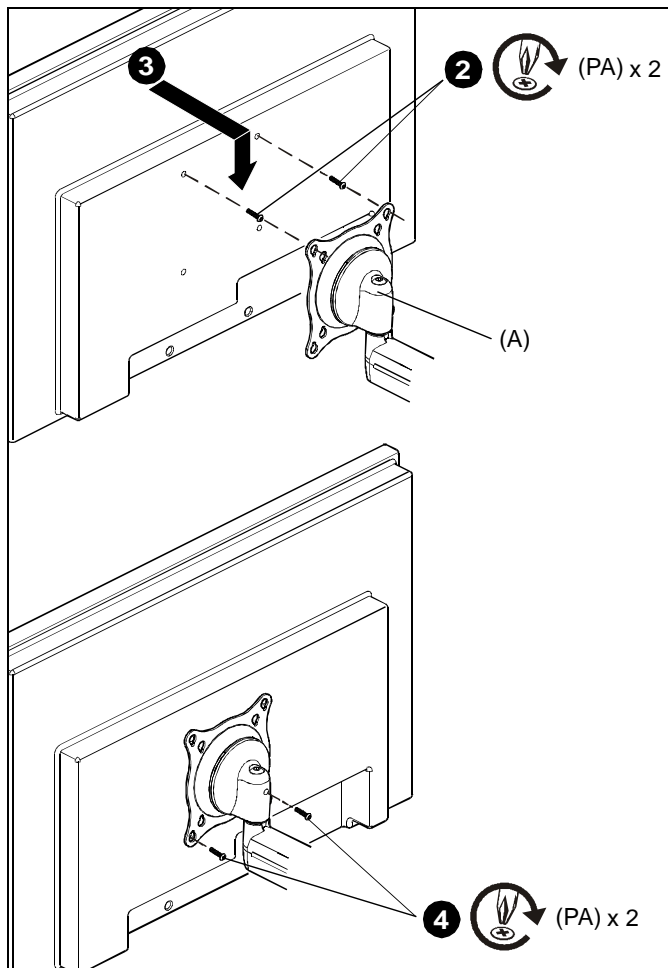

Figure 4
2. Carefully install two M4 x 12mm Phillips head screws (PA) into the *upper* mounting holes on the display. Thread screws completely into display, then back out 3 complete turns. (See Figure 4)
4. Using Phillips screwdriver, install two remaining M4 x 12mm Phillips head screws (PA) through the *lower* mounting holes in Centris bracket and into the display. (See Figure 4)